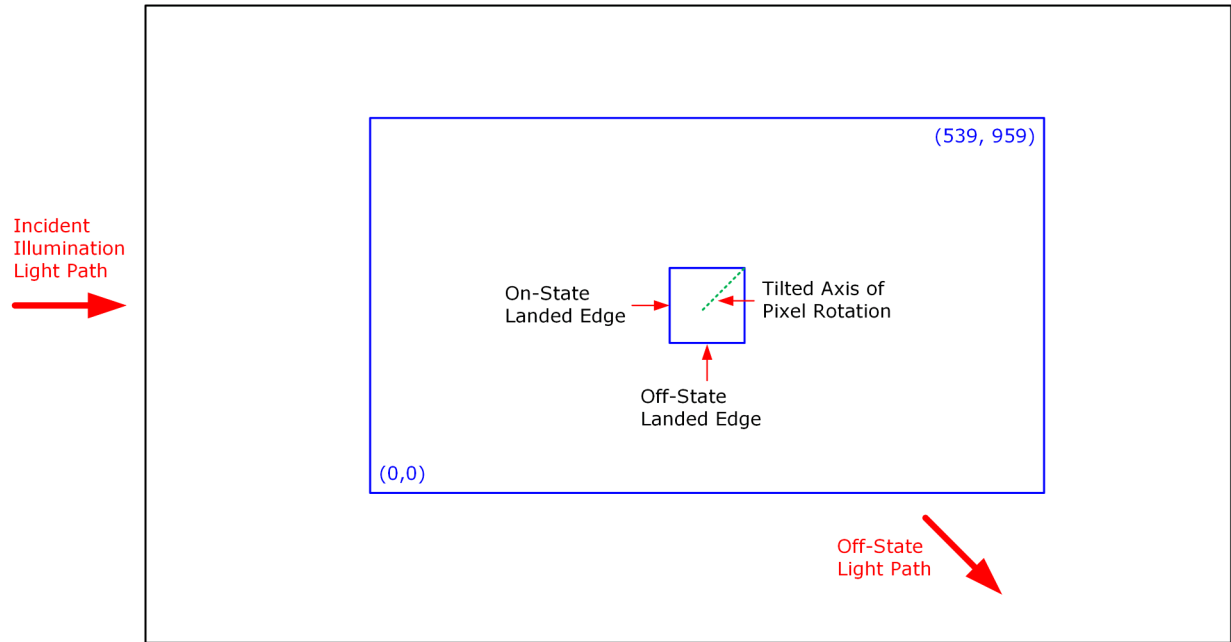

Figure 6-17. Landed Pixel Orientation and Tilt
- (1) Measured relative to the plane formed by the overall micromirror array.
- (2) Additional variation exists between the micromirror array and the package datums.
- (3) Represents the landed tilt angle variation relative to the nominal landed tilt angle.
- (4) Represents the variation that can occur between any two individual micromirrors, located on the same device or located on different devices.
- (5) For some applications, it is critical to account for the micromirror tilt angle variation in the overall system optical design. With some system optical designs, the micromirror tilt angle variation within a device may result in perceivable non-uniformities in the light field reflected from the micromirror array. With some system optical designs, the micromirror tilt angle variation between devices may result in colorimetry variations, system efficiency variations or system contrast variations.
- (6) When the micromirror array is landed (not parked), the tilt direction of each individual micromirror is dictated by the binary contents of the CMOS memory cell associated with each individual micromirror. A binary value of 1 results in a micromirror landing in the ON state direction. A binary value of 0 results in a micromirror landing in the OFF state direction. See Figure 6-17
- (7) Micromirror tilt direction is measured as in a typical polar coordinate system: Measuring counter-clockwise from a 0° reference which is aligned with the +X Cartesian axis.
- (8) The time required for a micromirror to nominally transition from one landed state to the opposite landed state.
- (9) The minimum time between successive transitions of a micromirror
- (10) Conditions of Acceptance: All DMD image quality returns will be evaluated using the following projected image test conditions: